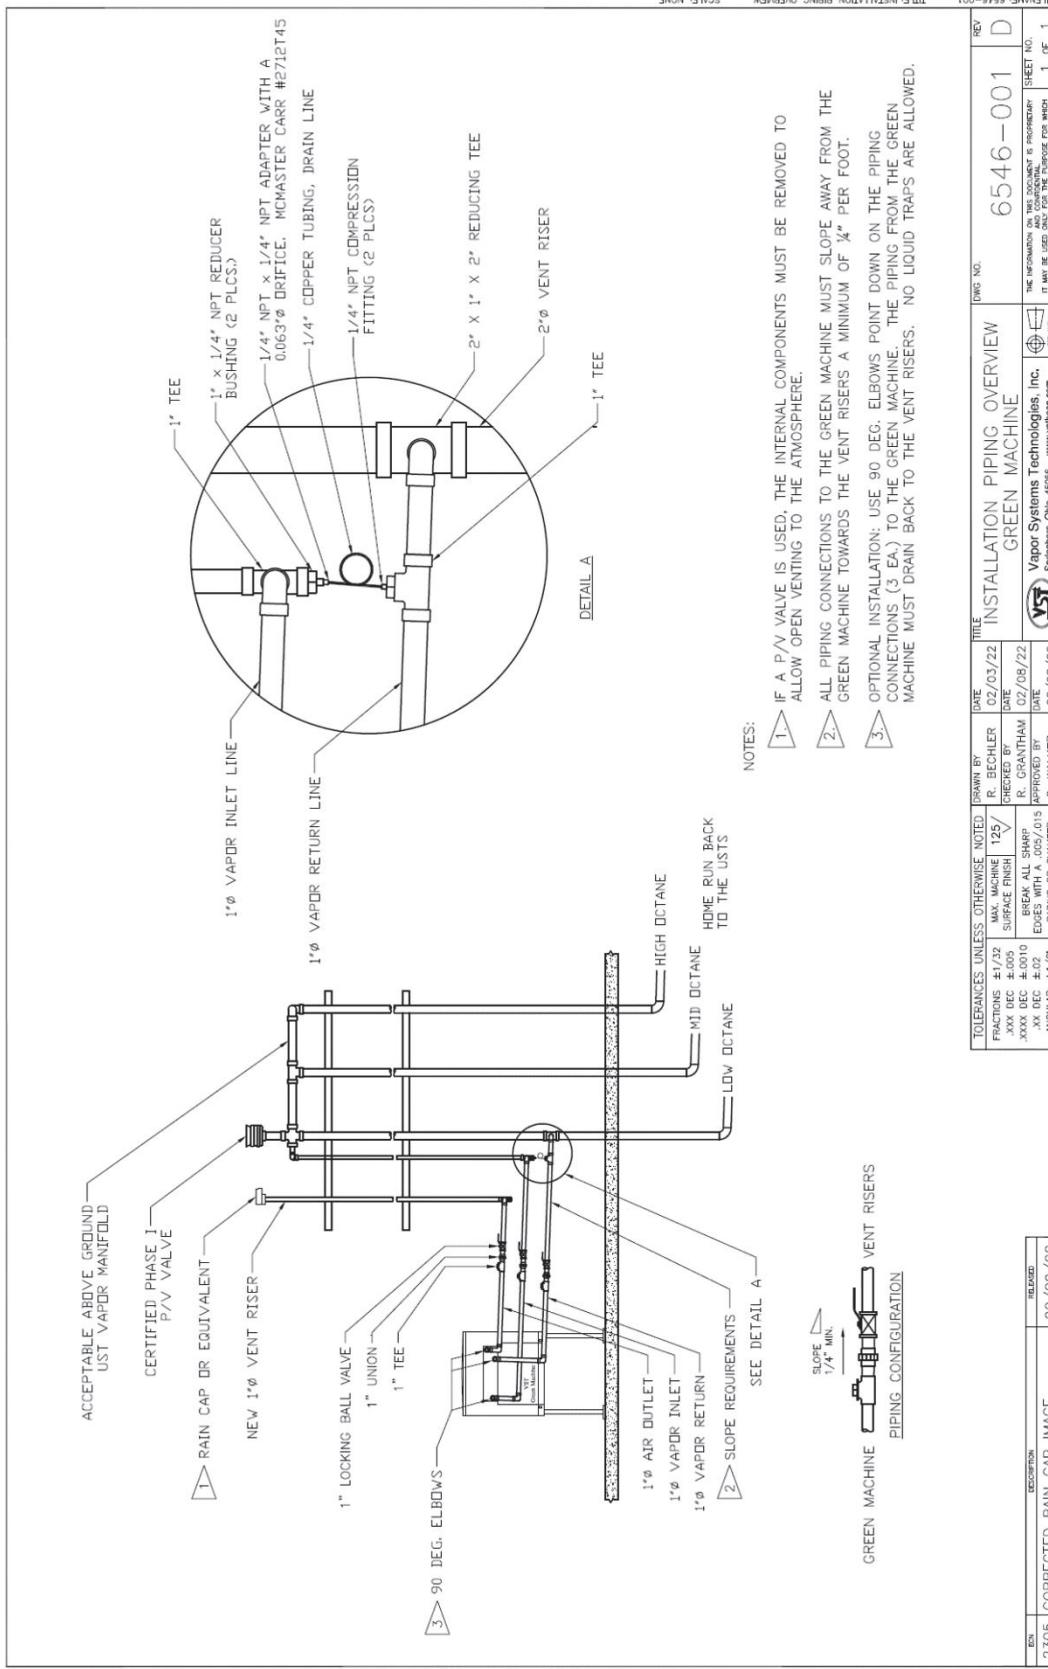

Figure 2-1: Vapor Piping Overview
- There are 3 piping connections to be made to the GREEN MACHINE. See **Figures 2-1 & 2-2**:
- The  $\frac{1}{4}$ " diameter drain line with the supplied adapter must be installed per **Figure 2-1**.
- Install a 1" vapor inlet pipe and a 1" vapor return pipe as shown in **Figure 2-1** from the vapor inlet and vapor return connections on the GREEN MACHINE to an existing vent riser.
**See Figure 2-1.**
- The 1" piping must slope away from the GREEN MACHINE a minimum of  $\frac{1}{4}$ " per foot. See **Figure 2-1**.
- From the vent riser, install the 1" locking ball valve, then the 1" union, then the 1" tee as shown in **Figure 2-1**.